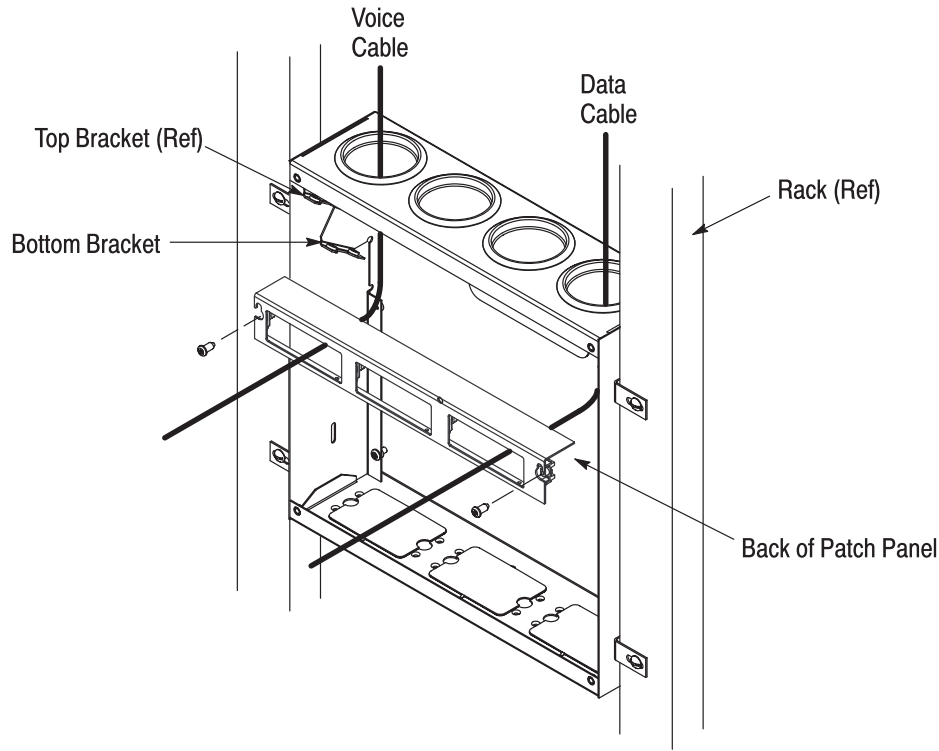

Figure 3
2. Using two of the four mounting screws, mount the patch panel onto the bottom bracket of the SCS enclosure. Refer to Figure 3. If a starter panel is being used, subsequent patch panels should be installed *below* the starter panel.
1. Separate the voice (telephone distribution) and data (computer networking) cables, and insert them through the cable hole plugs of the SCS enclosure. It is recommended that the voice cable be located on the left and the data cable on the right of the SCS enclosure. See Figure 3. Allow a minimum of 46 cm [18 in.] of excess cable inside the SCS enclosure.